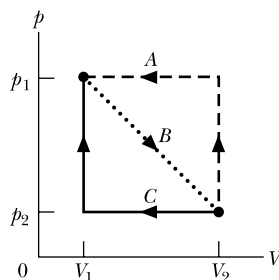

Figure 18.35 Problem 95.
**95** A sample of gas expands from  $V_1 = 1.0 \text{ m}^3$  and  $p_1 = 40 \text{ Pa}$  to  $V_2 = 4.0 \text{ m}^3$  and  $p_2 = 10 \text{ Pa}$  along path  $B$  in the  $p$ - $V$  diagram in Fig. 18.35. It is then compressed back to  $V_1$  along either path  $A$  or path  $C$ . Compute the net work done by the gas for the complete cycle along (a) path  $BA$  and (b) path  $BC$ .